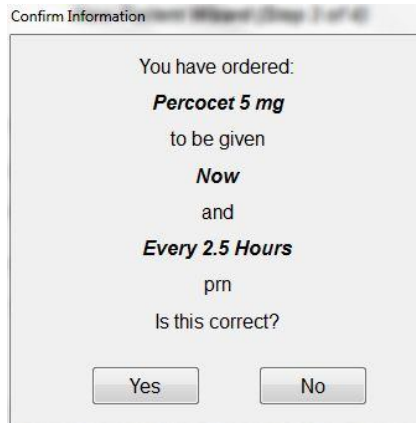

Figure 15: Dispense Order Confirmation window
5. Carefully review the dispense order information on the Confirm Information screen (Figure 15). Select **YES** if correct to proceed to the next screen.